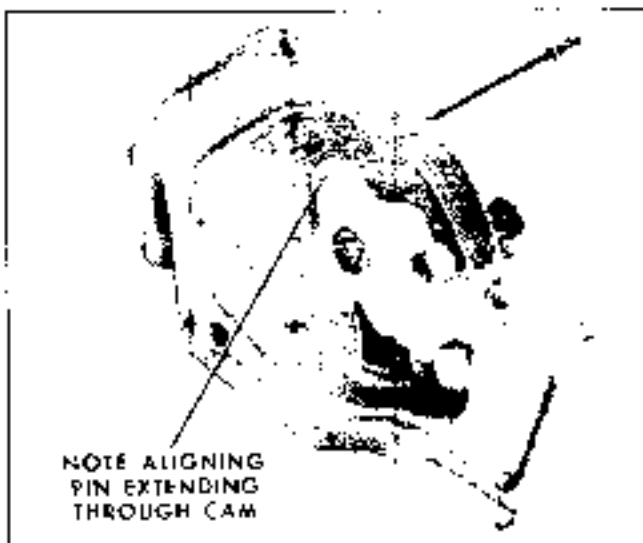

Fig. 12-41 Assembling Washer Pump to Wiper—Pontiac
9. Reassemble washer pump to wiper (Fig. 12-41) using alignment pin.